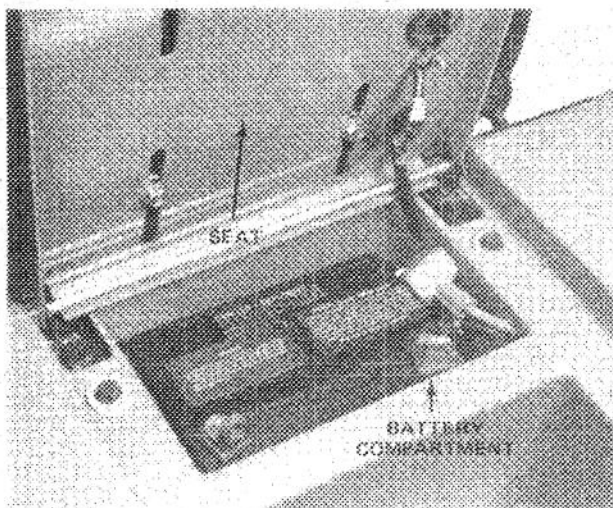

Figure 10
1. Tip the seat forward and lift battery out of compartment (Fig. 10).